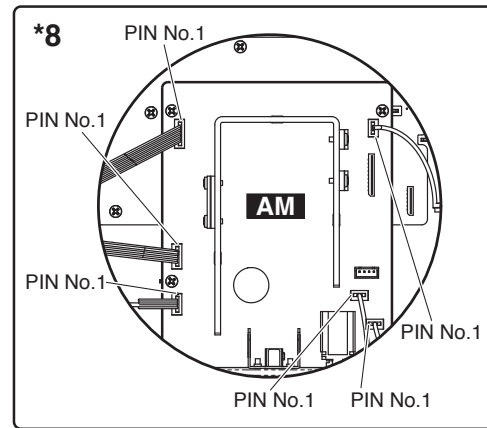

Fig.3-2
- *8 When connecting the wiring to the connector on the AM circuit board, match the edge mark of the wiring to the pin no.1 mark on the AM circuit board. (Fig.3-2)